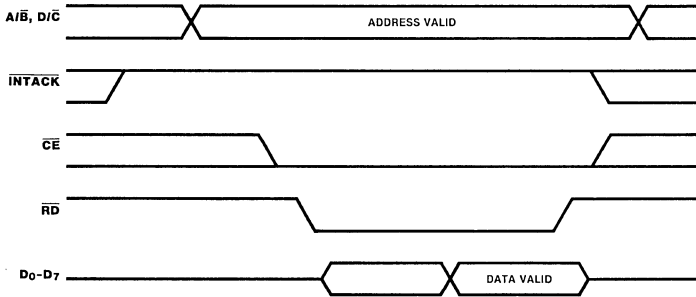

Figure 12. Read Cycle Timing
**Read Cycle Timing.** Figure 12 illustrates Read cycle timing. Addresses on  $A/\overline{B}$  and  $D/\overline{C}$  and the status on  $\overline{INTACK}$  must remain stable throughout the cycle. If  $\overline{CE}$  falls after  $\overline{RD}$  falls or if it rises before  $\overline{RD}$  rises, the effective  $\overline{RD}$  is shortened.